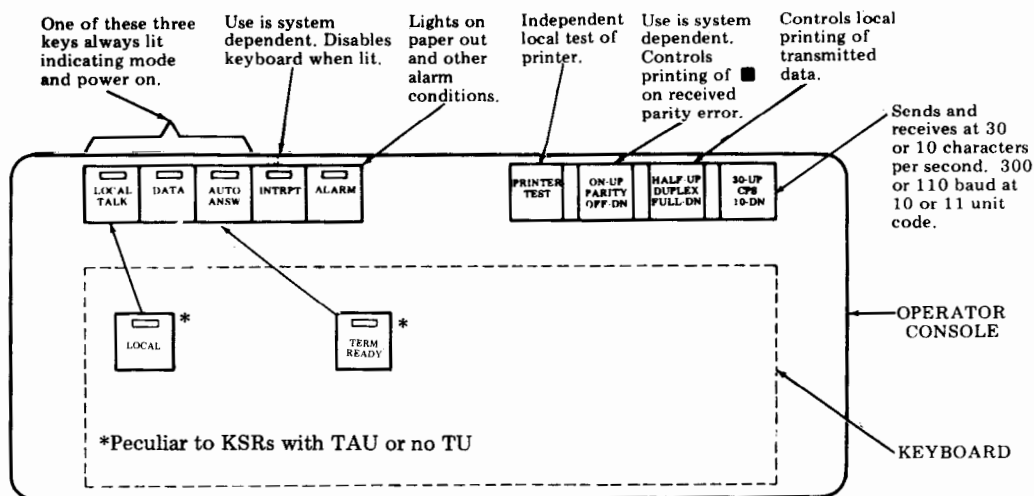

Fig. 3—KSR Operational Controls and Status Indicators
2.14 The operational controls and status indicators for the KSRs are briefly described in Fig. 3.